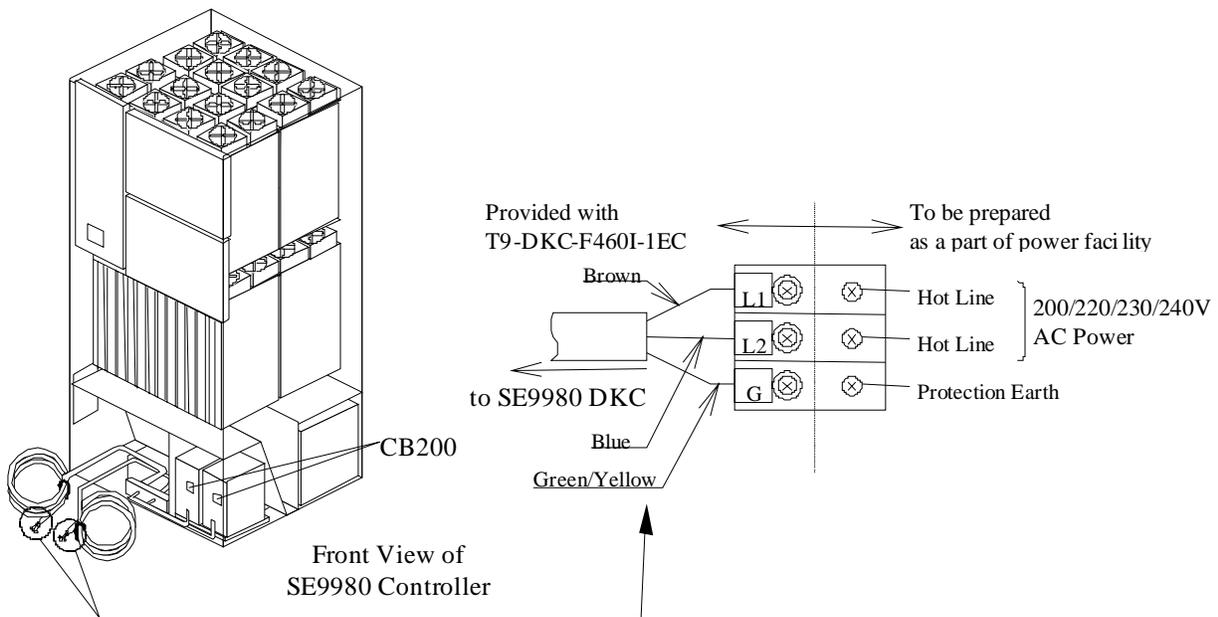

Figure 31 Power Plugs for Single-Phase Sun StorEdge 9980 Controller (Europe)
- Figure 31 illustrates the power plugs for a single-phase Sun StorEdge 9980 controller (Europe).